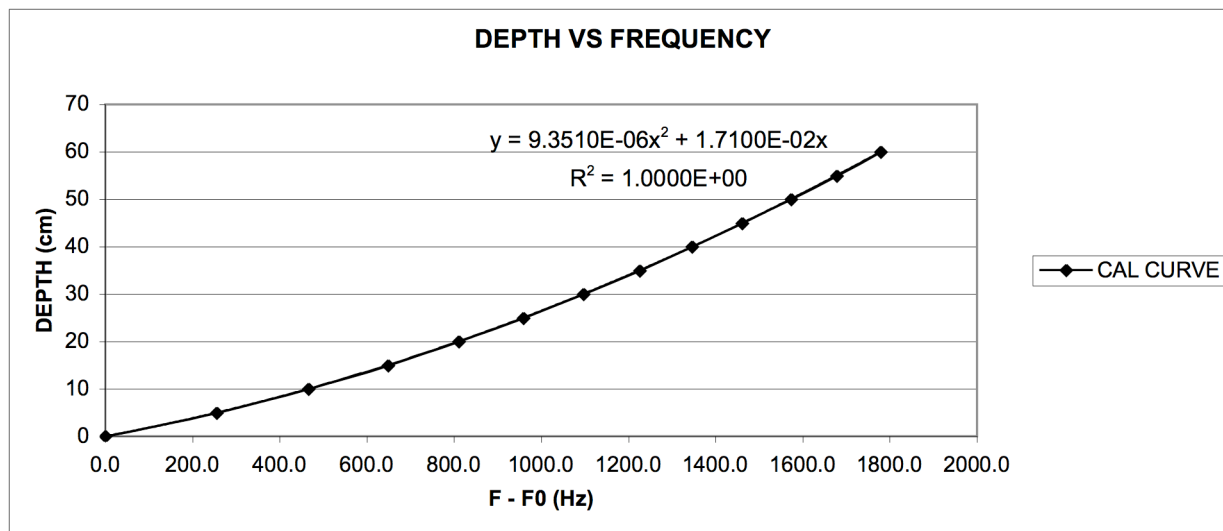

Figure 19. Sample input to and resulting calibration curve from the GEONOR calibration sheet Excel file.
3. Enter the values into the GEONOR calibration sheet Excel file, shown in Figure 19, to perform a second-order linear regression analysis to determine the equation to relate frequency to rainfall depth (Depth (mm) vs. F-Fo).